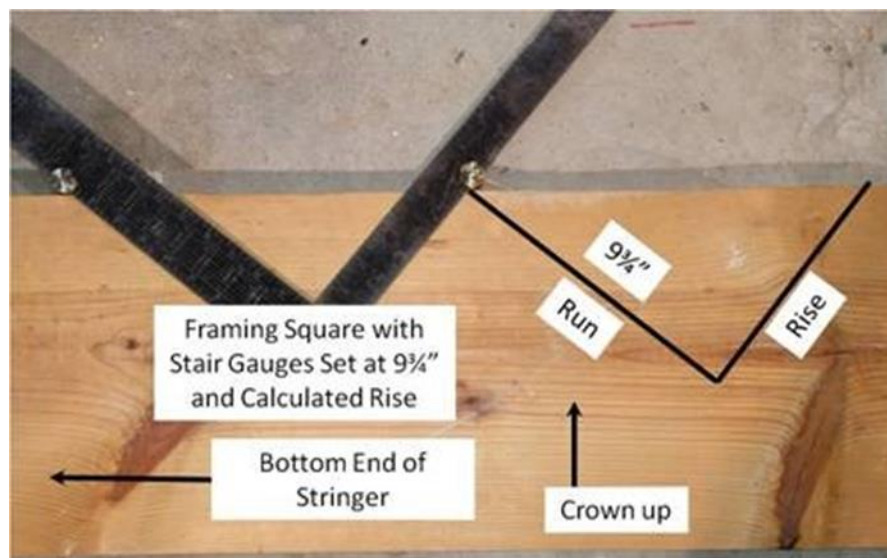

Figure 4-3. Stair Stringer Layout.
2. Attach stair gauges to the framing square and locate the precise dimensions calculated in Section 4.2.1 for run and rise. If the rise is $7\frac{3}{4}$ ", set the gauge to this dimension on the short side of the square; set the gauge to $9\frac{3}{4}$ " on the long side of the square (see Figure 4-3).